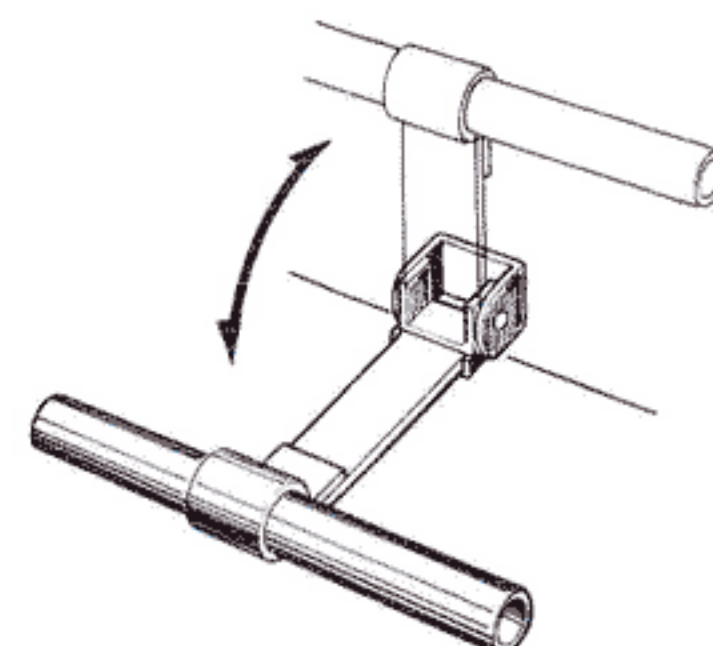

Fig. 9
- * When using the SX-770 near the broadcasting station or inside a wooden building, it is unnecessary to install an AM antenna. In such an area, set the direction of the AM FERRITE ANTENNA for the best radio reception while actually listening to broadcasts. Refer to the article "RECEPTION OF AM BROADCAST". (Fig. 9)